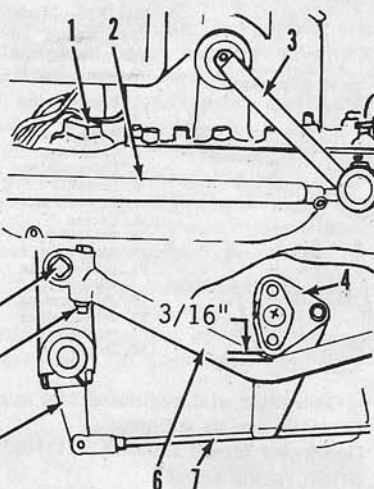

Fig. F27—Models TE20, TO20, and TO30 clutch pedal adjustment. Loosen retaining bolt (9) and rotate clutch pedal (6) on clutch release fork shaft (5).
71. **PEDAL ADJUSTMENT.** The clutch pedal should have 3/16 inch of free travel when measured at the pedal stop, as shown in Fig. F27. This amount of free travel produces the desired amount of clearance between face of release bearing and the clutch release levers. The adjustment is made by loosening the clutch pedal retaining bolt (9), and rotating clutch pedal (6) on clutch release fork shaft (5).